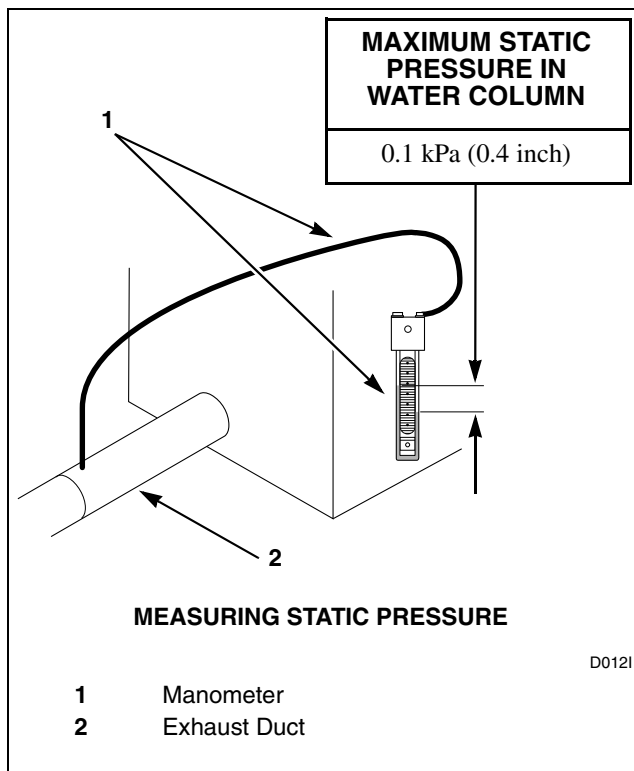

Figure 16
**NOTE: This can be measured with a manometer placed on the exhaust duct approximately 61 cm (2 feet) from the dryer. Refer to Figure 16.**